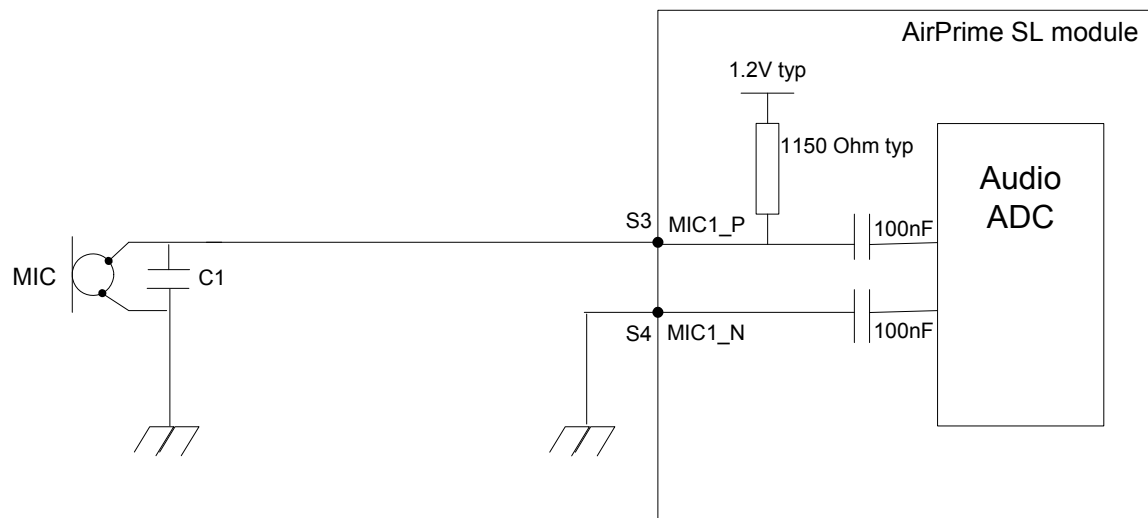

Figure 4-7: Example - MIC single-ended connection without an LC filter (TBD)
- LC filter (L1 and C2) is recommended (but not mandatory) to eliminate TDMA noise. If the filter is not to be used, the capacitor C2 must be removed and the coil replaced by 0 Ω resistors as shown in Figure 4-7 on page 56.